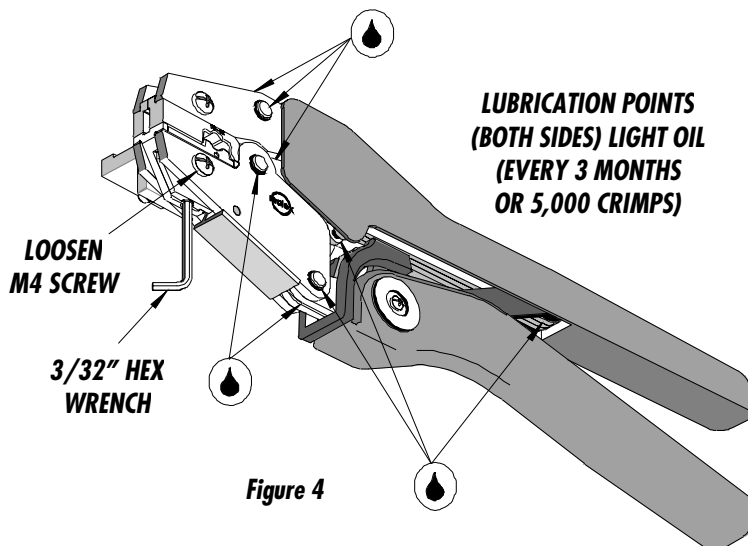

Figure 4
6. If the insulation part of the crimp needs to be adjusted, first loosen the M4 screw on the bottom tool jaw, then insert a 3/32 hex wrench (supplied) into the bottom of the lower die (See Figure 4). A clockwise (CW) rotation decreases insulation crimp while a counter-clockwise (CCW) rotation increases insulation crimp. After adjusting retighten the M4 screw.
3. Make certain all pins; pivot points and bearing surfaces are protected with a thin coat of high quality machine oil. Do not oil excessively. The 64001-4600 (RHT-5764) was engineered for durability, but like any fine piece of equipment it needs cleaning and lubrication for a maximum service life of trouble-free crimping. A light oil, such as 30 weight automotive oil used at the oil points shown in Figure 4, every 5,000 crimps or 3 months will significantly enhance the tool life and ensure a stable calibration.